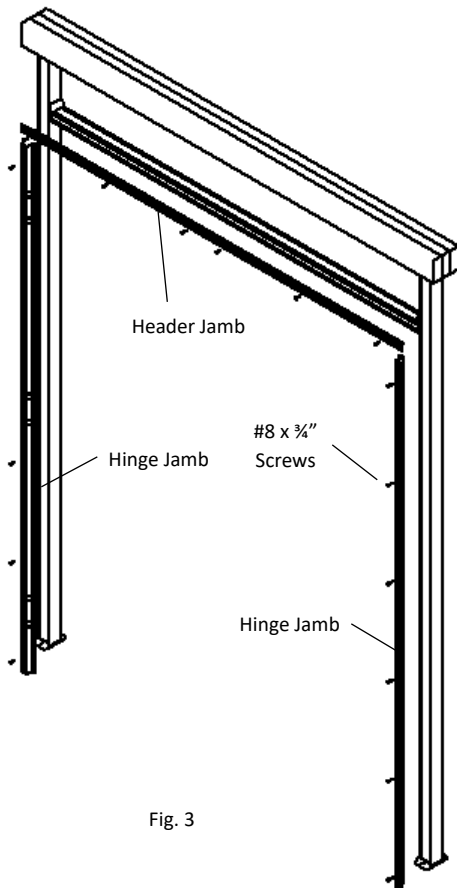

Fig. 3
- Attach header jamb to door header with #8 x 3/4" self-tapping screws. (Fig. 3) Keep header jamb tight against header.
tapping screws. (Fig. 3) Do not attach jambs with screws through hinge holes at this time.